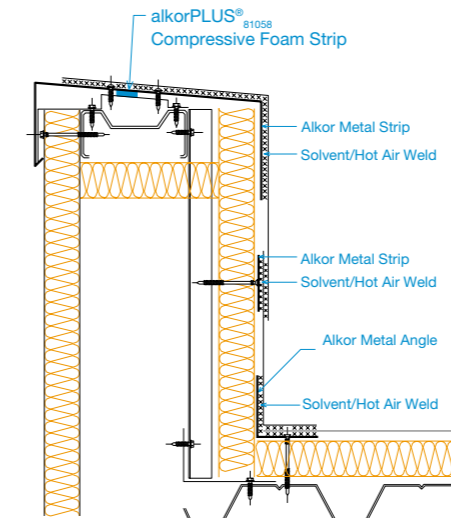

fig. 4: alkorPLUS® 81058 compressive foam strip
- With an alkorPLUS® 81058 compressive foam strip underneath the alkorPLUS® metal sheet trim, the parapet top is sealed against wind pressure. (See fig. 4) The membrane is protected from an abrasive upstand surface by an alkorPLUS® 81005 protective layer (min. 300 g/m²). Where the parapet height exceeds 500 mm, intermediate support with a continuous alkorPLUS® metal sheet (50 mm wide) is required.